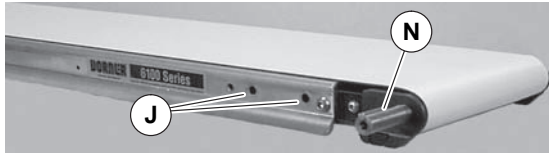

Figure 14
2. Locate drive output shaft. Remove two screws (Figure 14, item J). Install key (N).